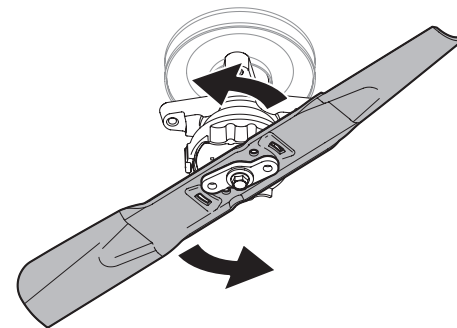

Figure 4-7
- Push upward on the blade collar and hold it. See Figure 4-7.
- While holding the collar in the upward position, rotate the blade counterclockwise to free it from the collar. See Figure 4-7.